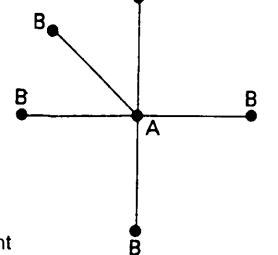

Fig 9.
- 1: Adjust VR501 to overlap the dots (part A) as shown in fig. 9.